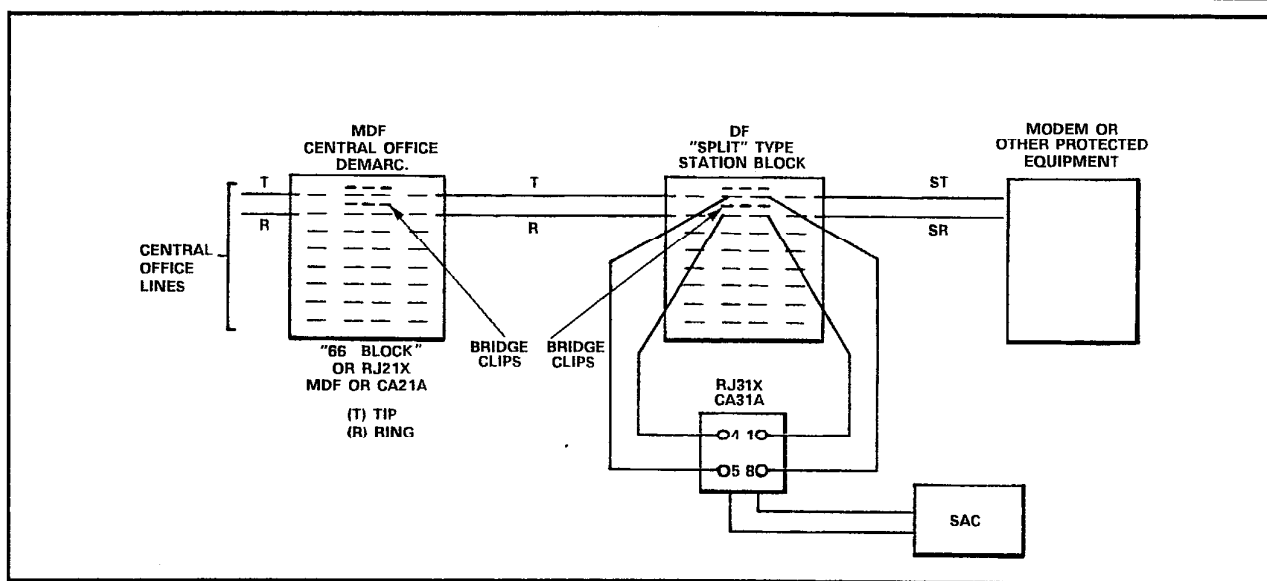
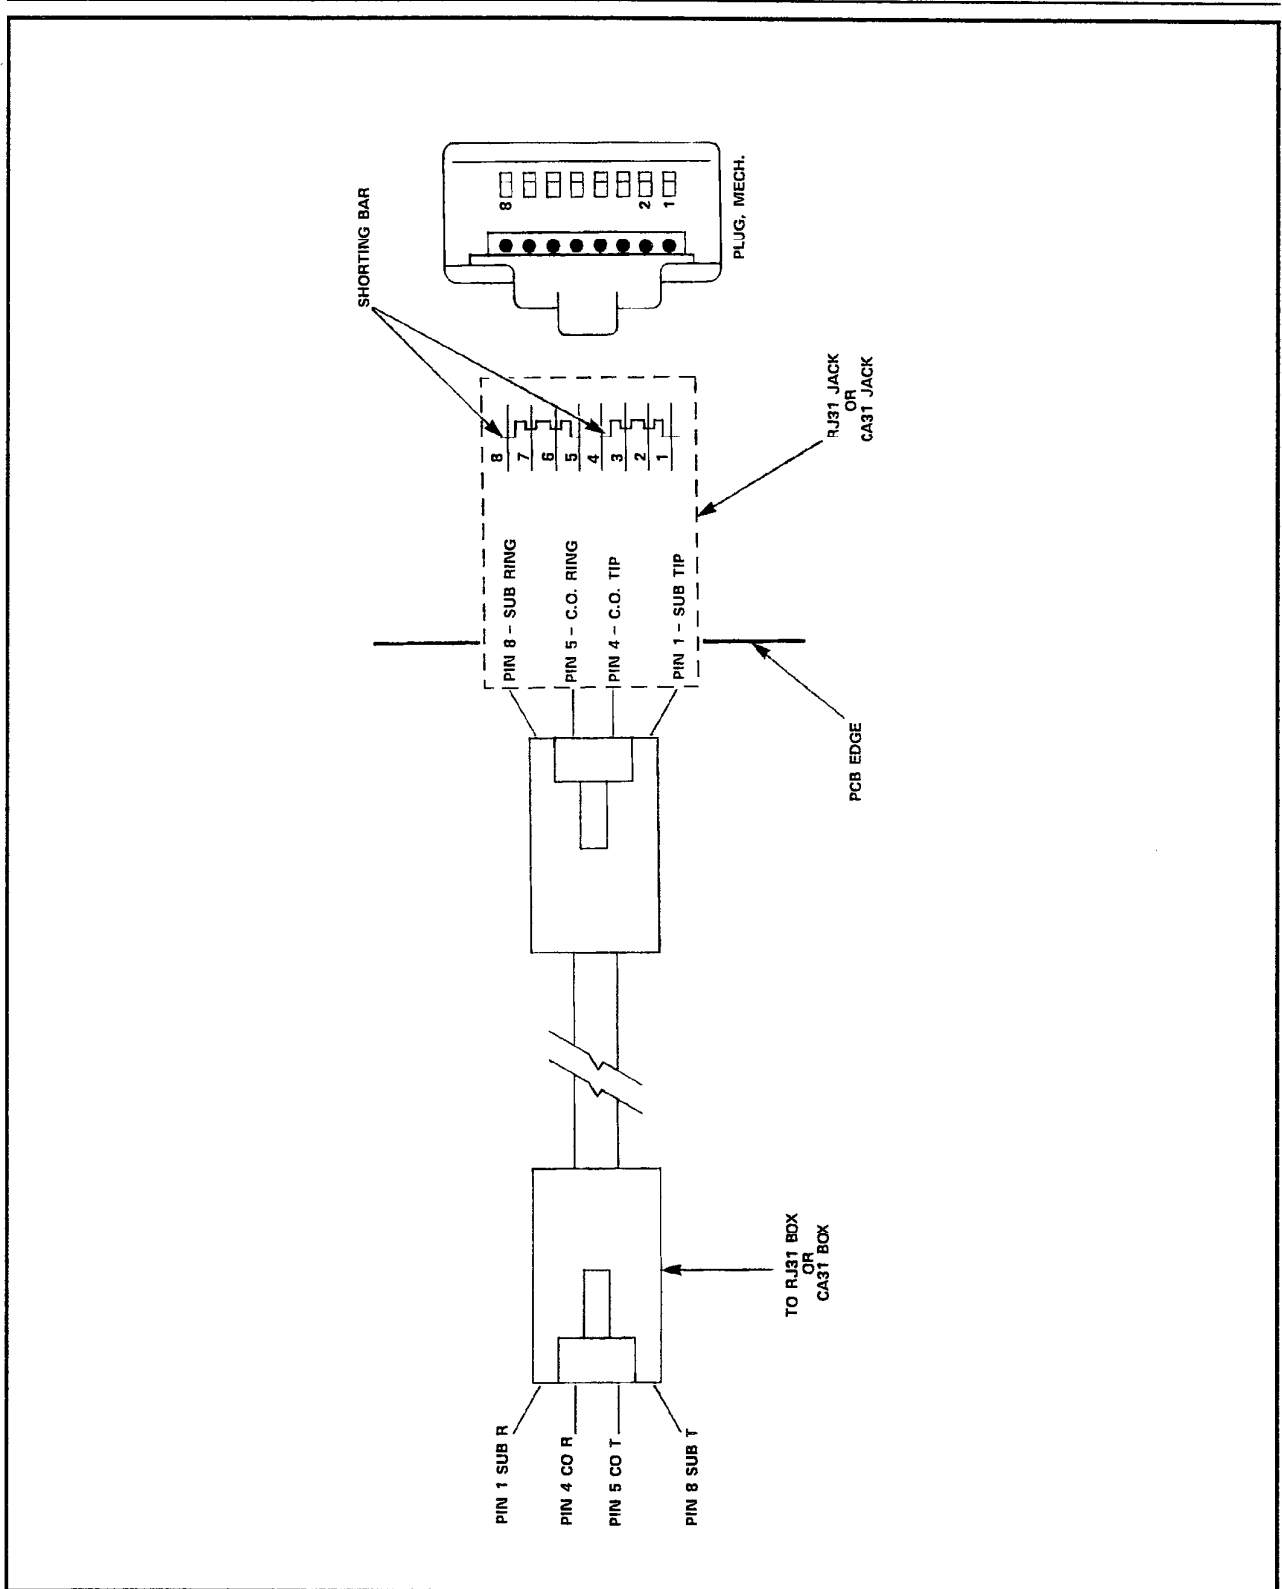

Figure 4-5, Typical Connection Configuration
Figure 4-7, USOC RJ31X/CA31A Jack and Cable Assy.
**4.15** Figure 4-7 illustrates the USOC RJ31X/CA31A Connector and cable assembly as used by the SAC. Figure 4-5 illustrates the installation wiring of the Telco-supplied RJ31X/CA31A USOC jack and other connections from the Central Office through to the Modem or other protected equipment. For the unit to operate properly, the bridge clips at the "split" type station block must be removed.